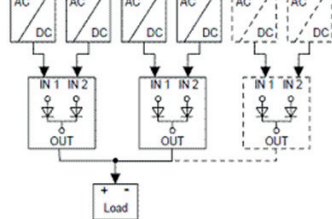

Figure 5
6. Typical Application Notes (Fig. 5)